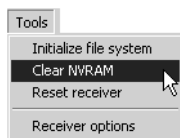

Figure 3-18. Tools ▶ Clear NVRAM
2. Click **Tools ▶ Clear NVRAM** (Figure 3-18). The REC LED rapidly flashes green and red; the STAT LED flashes red.